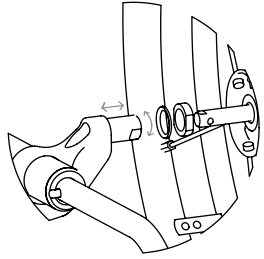

Figure 17.3 Axle receiver adjustment.
- 3 Ensure that the spring lock washer is in place between the lock nut and the axle plate. Once the preferred location is selected, reapply Loctite to the  $\frac{3}{4}$ -16 nut and tighten it to set the location. (See Figure 17.3)